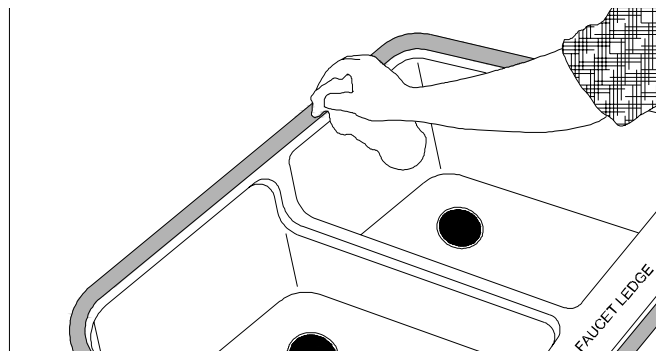

Figure 7A
- Clean the sink flange and exposed laminate with denatured alcohol and a clean white cloth. (FIG. 7A)